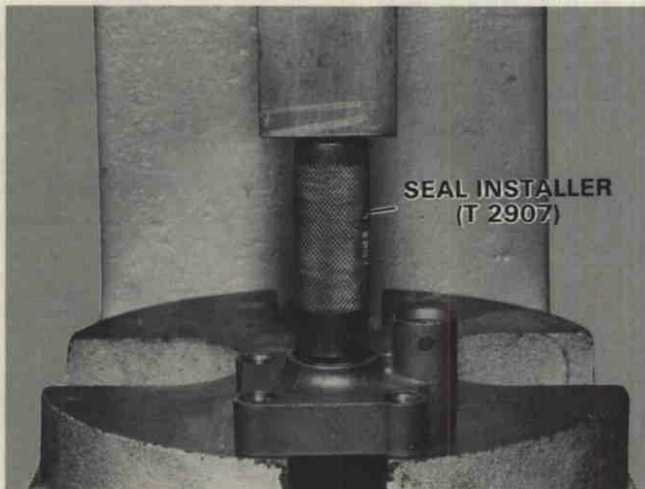

Figure 21. Installing Driveshaft Seal.
- B. Place new seal, spring end up, on top of seal bore. Use Special Tool No. T 2907 seal installer to press seal in. Figure 21.